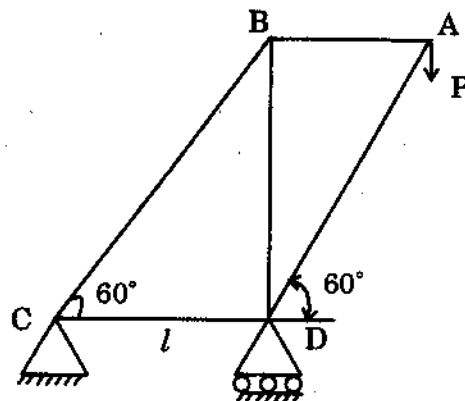

Figure. 2
14. Find the vertical deflection of A of the structure shown in fig 2. All members have the same sectional area.